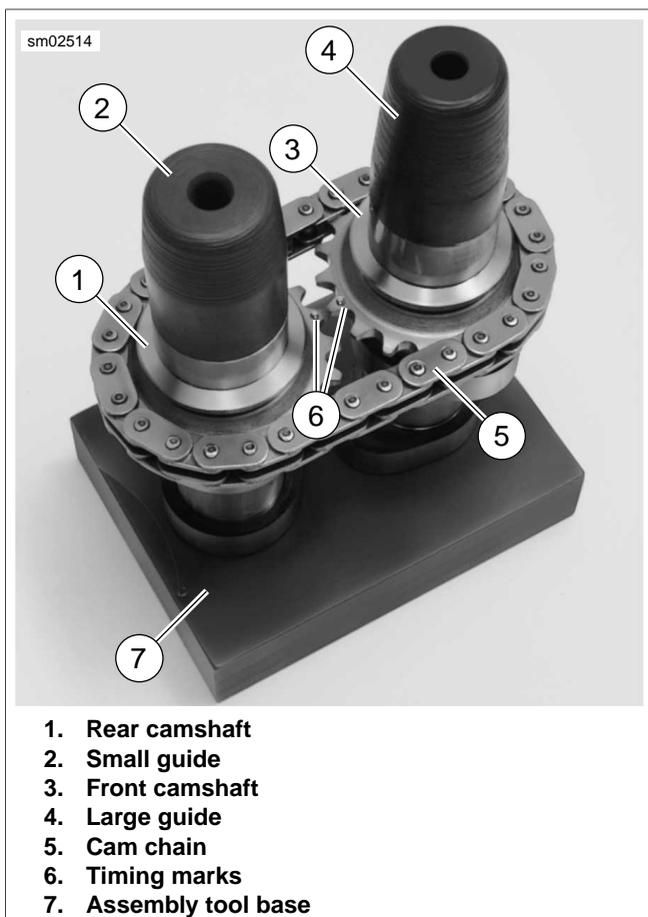
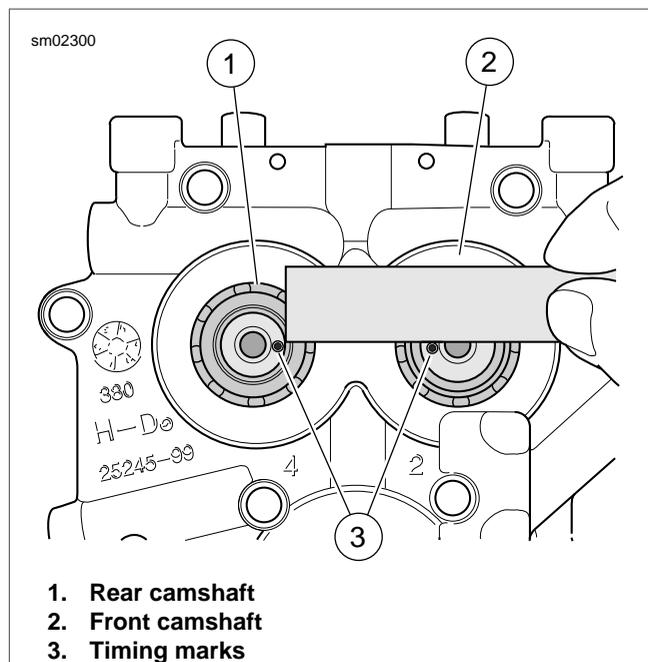

Figure 3-110. Camshaft Assembly Tool
Figure 3-111. Verify Alignment of Timing Marks
- See Figure 3-110. Obtain CAMSHAFT ASSEMBLY TOOL (Part No. HD-47956). Place crankcase side of camshaft/cam chain assembly into assembly tool base (7) while maintaining cam timing mark (6) alignment.
- Place small guide (2) on rear camshaft (1). Place large guide (4) on front camshaft (3).
- See Figure 3-111. Using a straightedge, verify that the timing marks are in alignment. If they are not, then the camshafts must be removed, realigned and reinstalled.